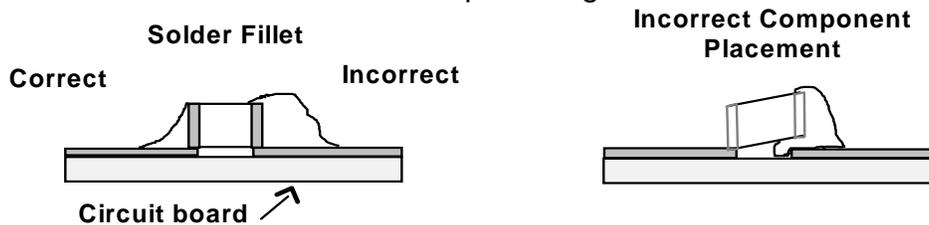

Figure 3. Proper SMD Assembly.
5. Once solidified, remove holding tool and heat and flow solder to the other side of the component only if it is not shared by a second component. If so, solder the component that shares the pad first. You're done! See examples in figure 3.